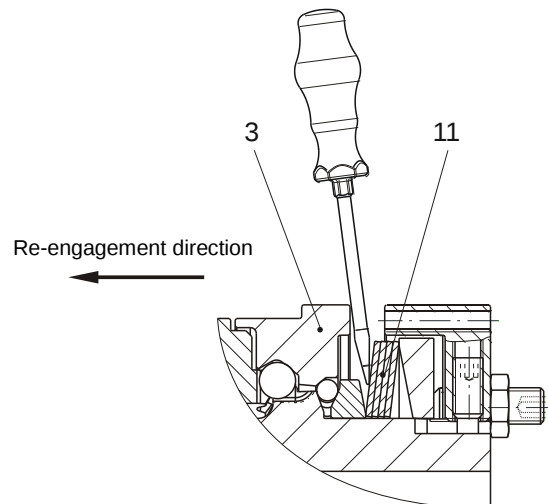

Fig. 10
- ❑ By using two screwdrivers, applied opposite each other and supported by the cup springs (11), see Fig. 10.